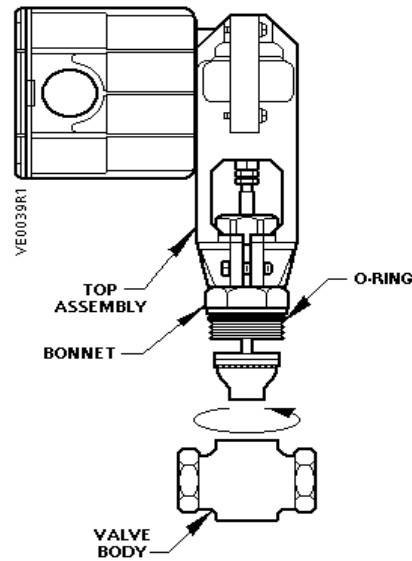

Figure 2. Loosening Top Assembly on VE 339 Valve.
VE 339 Two-way Valves (Figures 2 and 3)
3. Using an open-end wrench, loosen and remove the entire top assembly from the valve body. See Figure 2.
(Figures 2 and 3),